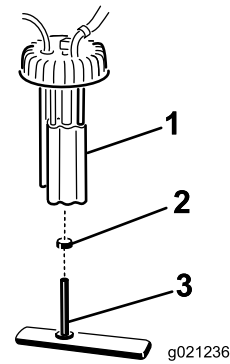

Figure 48
2. Unplug the wiring-harness connectors from the fuel pump (Figure 48).
3. Remove the fuel pump assembly and the fuel filter from the tank (Figure 48).
4. Remove the clamp that secures the fuel-filter hose to the fuel-pump fitting. Remove the hose from the fitting (Figure 48).